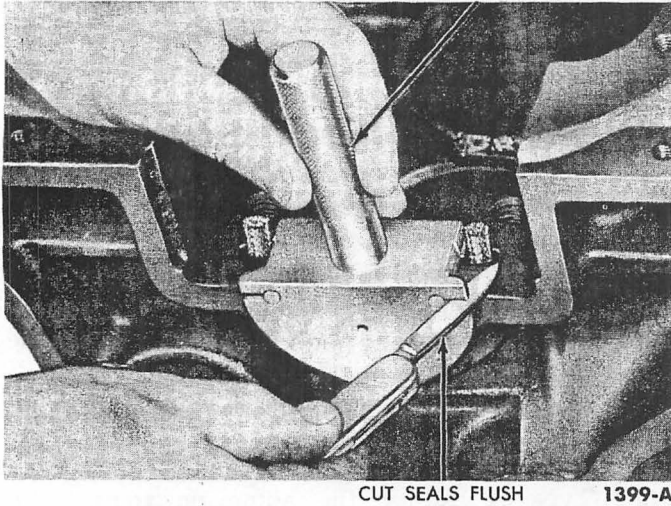
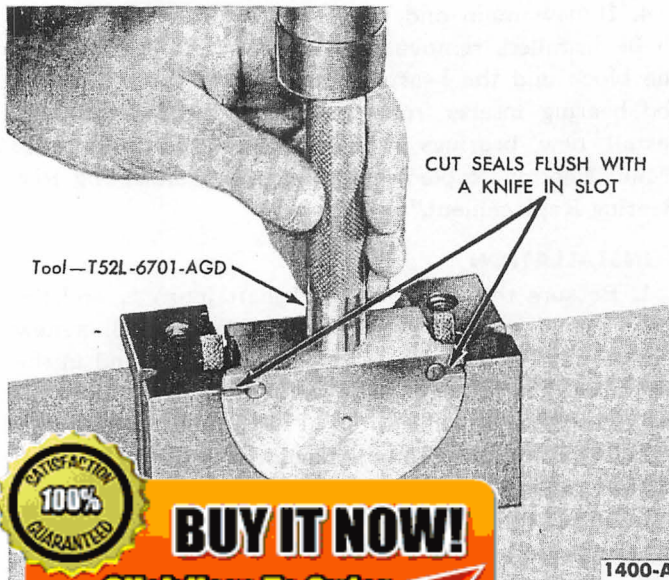

Fig. 34—Rear Oil Seal To Block Installation
Fig. 35—Rear Oil Seal To Block Installation
1. Be sure the bearings, crankshaft journals, and the rear journal oil seal grooves are clean. Install a new rear oil seal in the cylinder block (Fig. 34), and in the rear main bearing cap (Fig. 35). After installation, cut the ends of the seals flush.